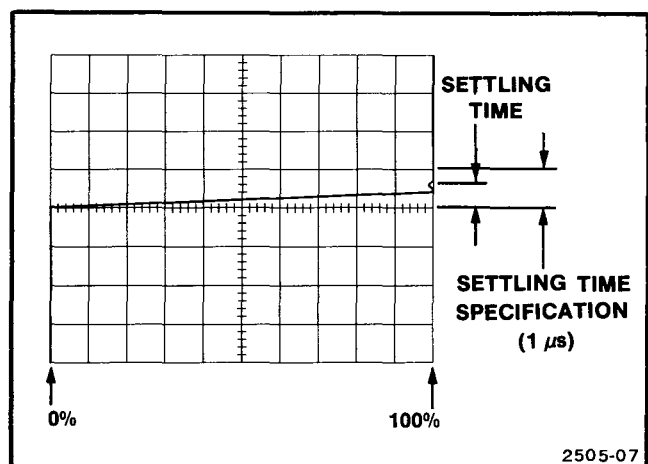

Fig. 4-4. Typical crt display for horizontal settling time measurement (settling time includes corner distortion).
e. CHECK—that the time for the leading edge of the square wave to travel from the zero percent level to the 100 percent level (within a trace width, 0.025-inch) is 1 microsecond (1 division) or less. See Fig. 4-4.